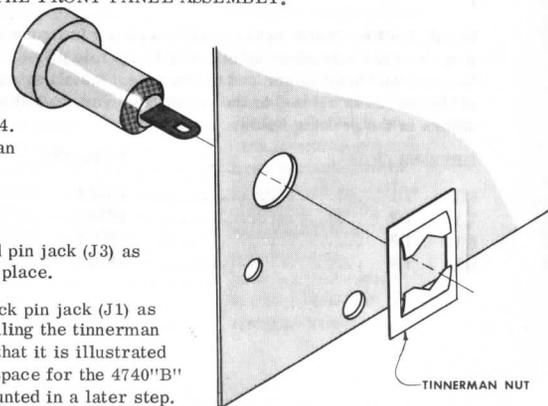
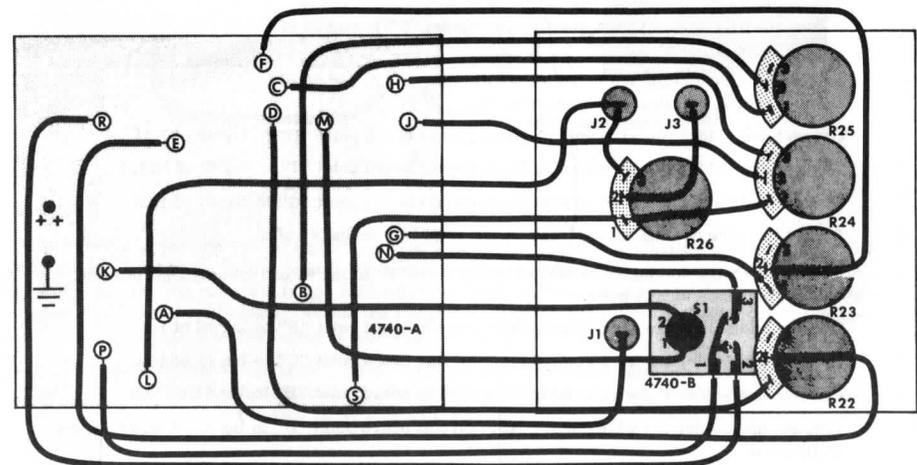

Figure 2
Figure 4
- () Place a red pin jack (J2) in the hole provided as shown in fig. 4. Fasten in place with a tinnerman nut as shown in detail figure 2. Press the tinnerman nut down firmly.
- () In a similar manner mount red pin jack (J3) as shown in figure 4 and fasten in place.
- () In a similar manner mount black pin jack (J1) as shown in figure 4. When installing the tinnerman nut rotate it 90° from the way that it is illustrated in figure 2 to insure adequate space for the 4740 "B" circuit board which will be mounted in a later step.
- () Mount 500K potentiometer R22 in the location shown in figure 4. Use two 3/8 inch nuts, one behind the front panel as a spacer and the second on the front side of the panel to secure the potentiometer. Adjust the rear nut so that none of the threaded shaft of the control is exposed when the front nut is tightened down. This will allow the control knob which will be mounted in a later step to seat as closely as possible to the front panel. Orient as illustrated.
- () In a similar manner mount 500K potentiometer R23 in the location shown in figure 4. Orient as illustrated.
- () In a similar manner mount 500K potentiometer R25 in the location shown in figure 4.
- () Solder the wire coming from circuit board point "P" to pad #1 of the 4740-"B" circuit board as shown in figure 4.
- () Connect the wire coming from circuit board point "S" to lug #1 of R26 as shown in figure 4. Solder two wires at this point.
- () Connect and solder the wire coming from circuit board point "B" to lug #2 of R25 as shown in figure 4.
- () Connect and solder the wire coming from circuit board point "A" to J1 as shown in in fig. 4.
- () Solder the wire coming from circuit board point "K" to lug #2 of S1 as shown in figure 4.